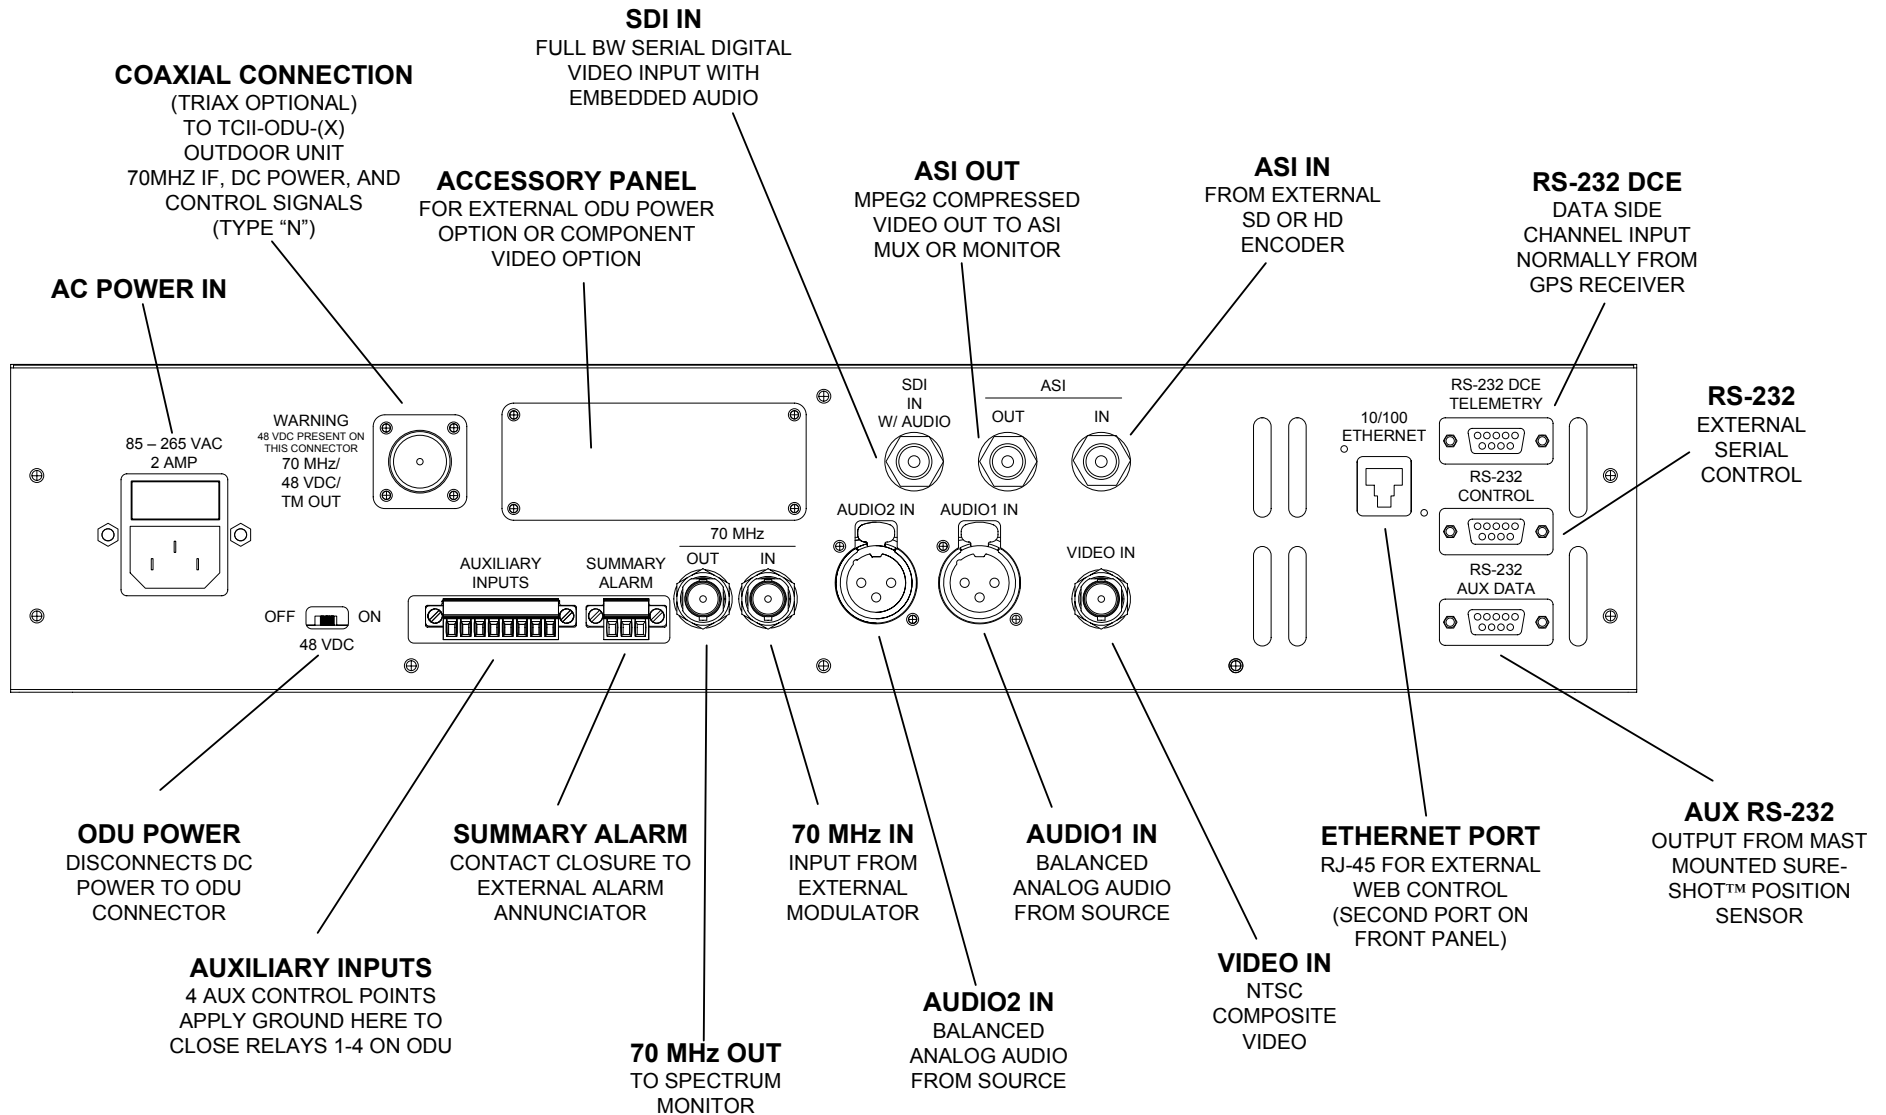

Figure 7 TCII Indoor Unit Rear Panel Connections
1. Make the appropriate connections to the back panel (see Figure 7). Be sure that all connections are secure. Route the cables as needed.